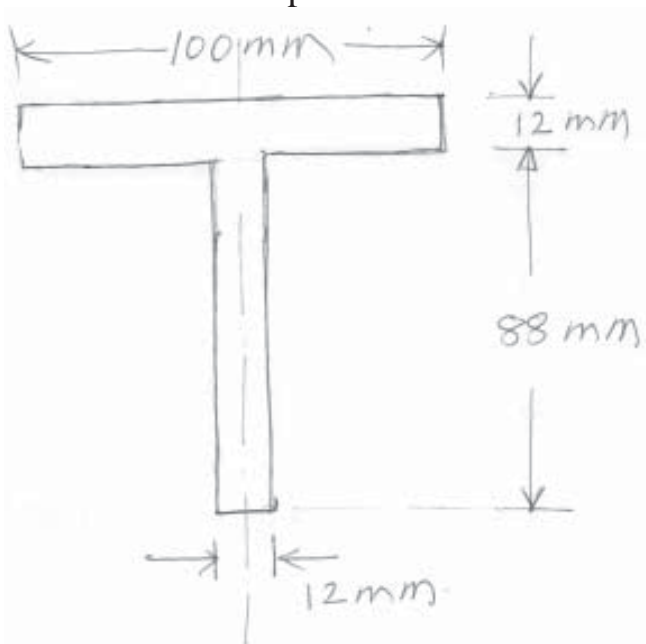

Fig. 4
4. a) Following Fig. 4 shows the cross-section of a beam, which is subjected to a shear force of 20 kN. Draw shear stress distribution across the depth marking values at silent points.